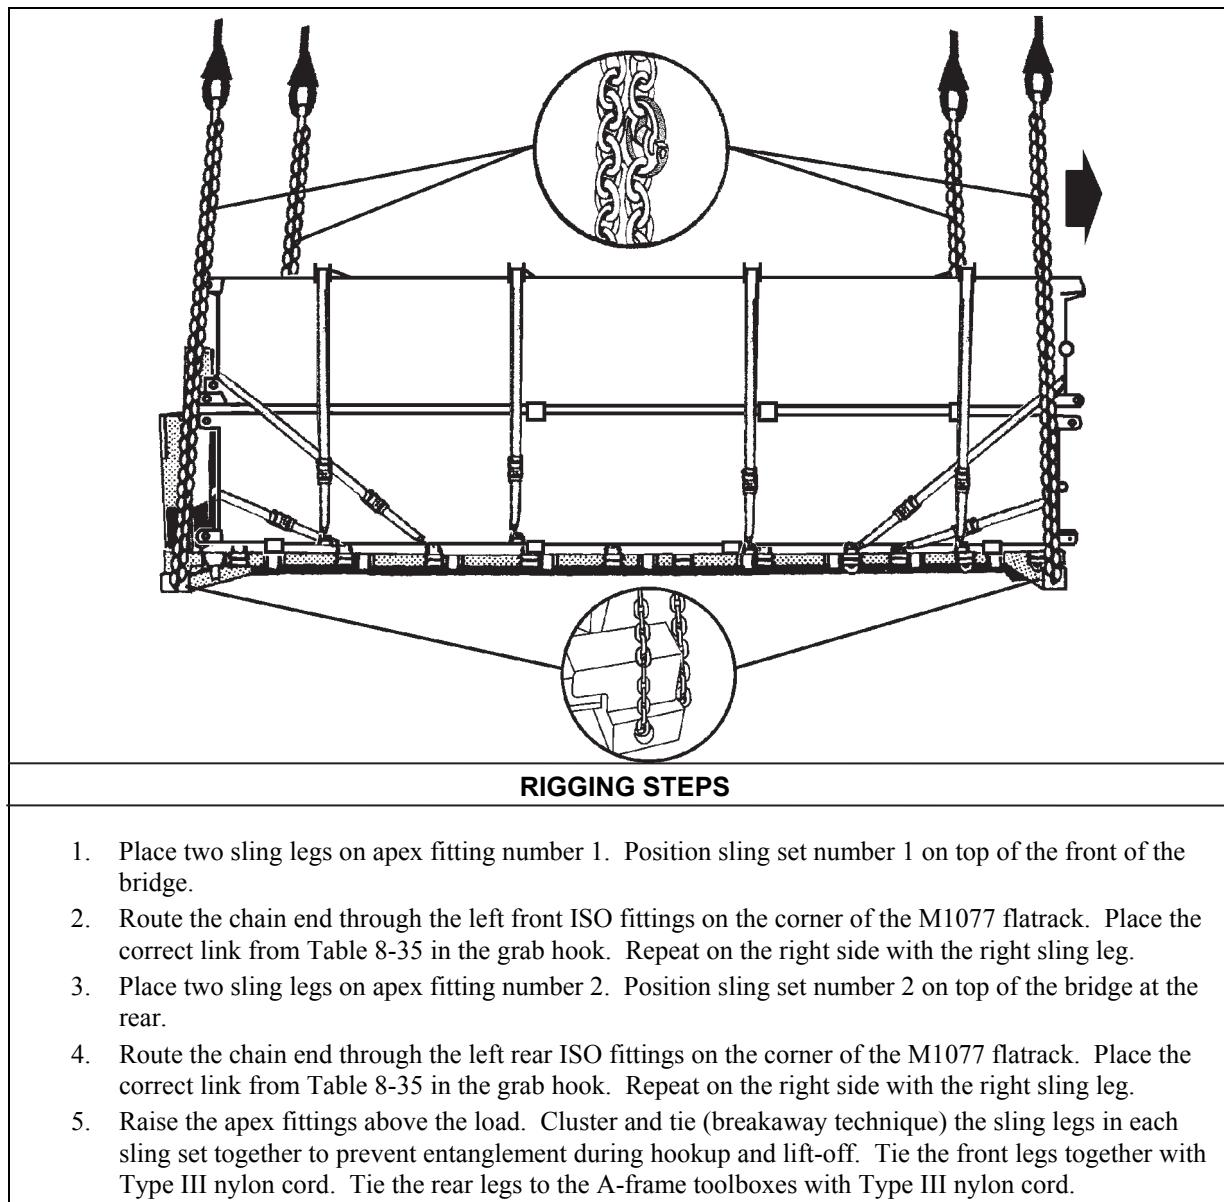

Figure 8-35. Dry Support Bridge on M1077 Flatrack
- **Rigging.** Rig the load according to the steps in Figure 8-35.